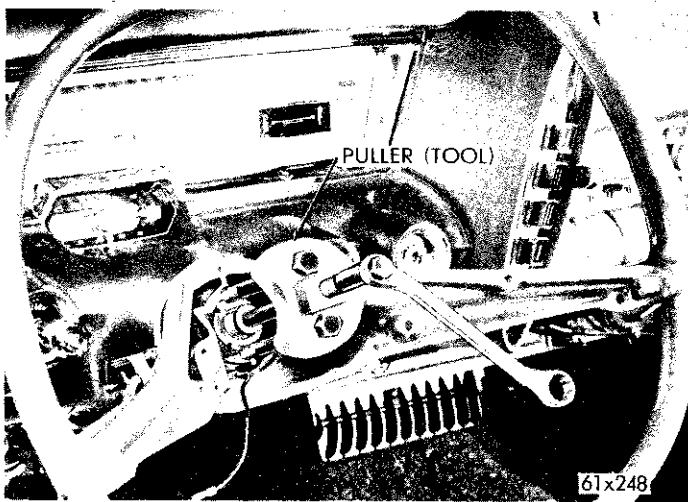

Fig. 16—Removing Steering Wheel
(6) Loosen the steering wheel nut several turns and install the Steering Wheel Puller C-3428 (Fig. 16) and remove the steering wheel nut and steering wheel.